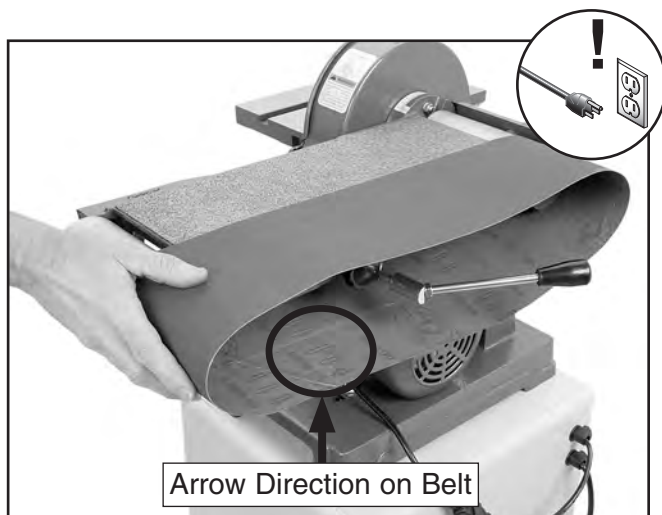

Figure 76. Installing new sanding belt.
5. Install a new sanding belt onto the idler and drive rollers, making sure the arrows on the bottom of the belt face the front of the sander, as shown in **Figure 76**.